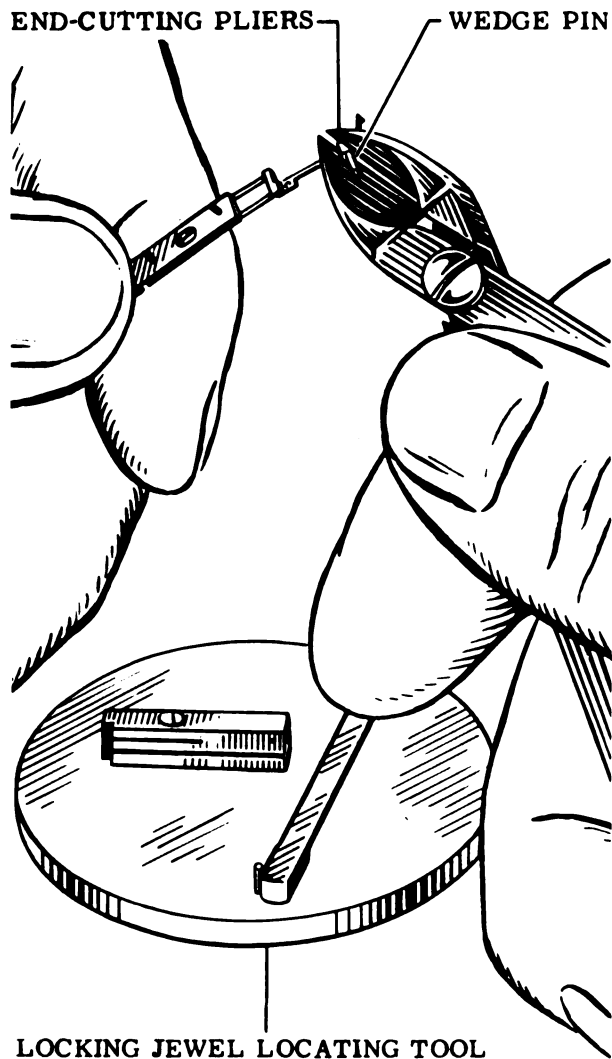

Figure 59
77), cut off excess of wedge pin. See Fig. 59. Stone smooth.